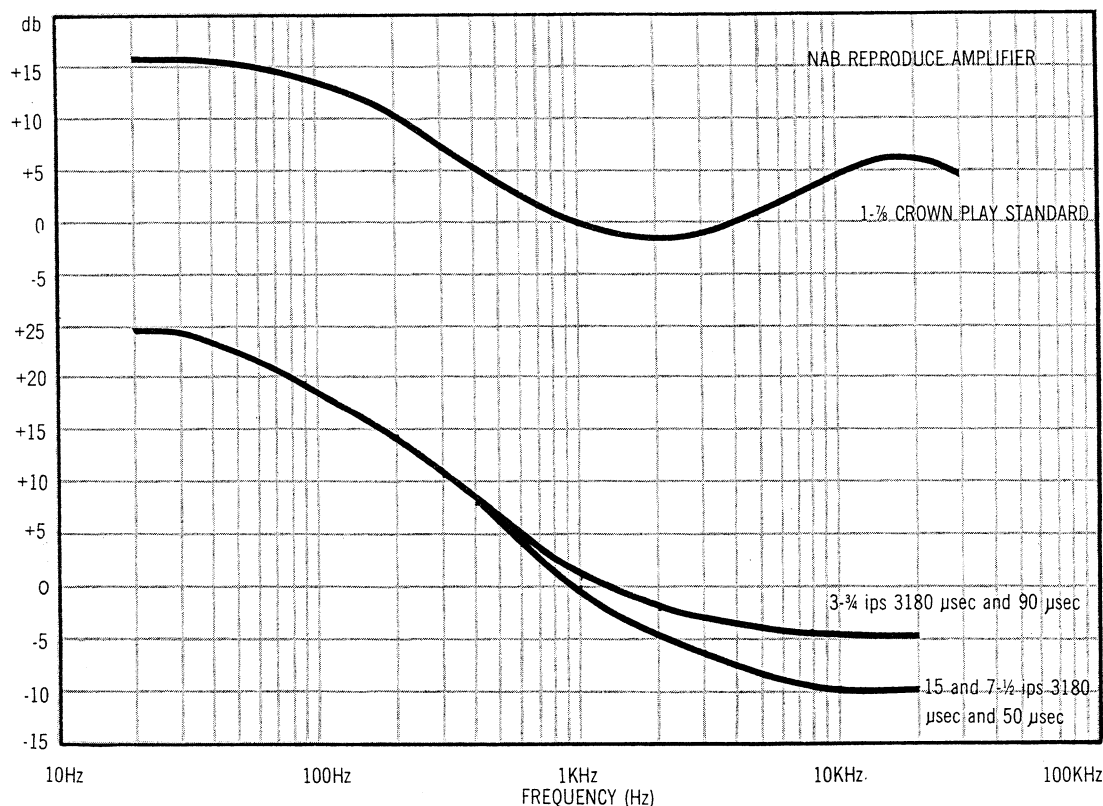

FIG. 10-9 REPRODUCE EQUALIZATION CURVES
Using standard alignment tapes for the appropriate speeds, set 10KHz for flat playback using appropriate controls (R203 or R204 on Main Board). Since there are no standard response curves for 1- $\frac{7}{8}$, satisfactory alignment can be achieved by disconnecting the playback and feeding a -50db signal directly into the electronics, and adjusting for a response according to the curves below. (See fig. 10-9).
2. Defective playamp. This may be checked by feeding a -50db signal into the playhead input and comparing output to standard play curves. Also check signal for distortion. (See fig. 10-9)